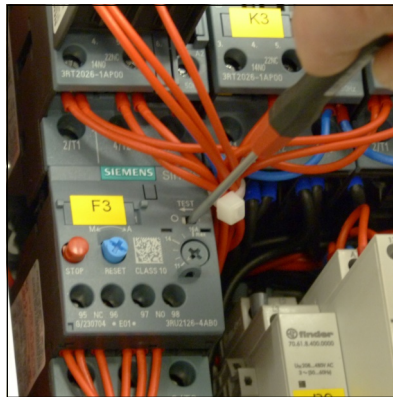

Fig. 2
- Operate the test switch by pushing the slide switch to the left with a small screwdriver (Fig. 2).